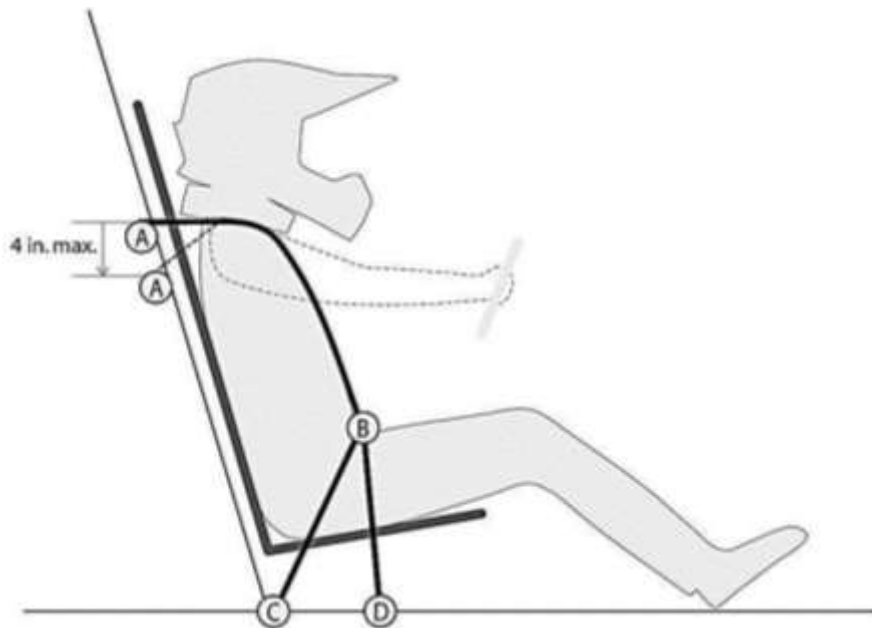

Figure B- 33: Driver Harness, Shoulder Harness Vertical Position
The shoulder belt mounting point (A) (see Figure B-33) shall be positioned no higher than vertical level with each driver’s shoulders, and no lower than 102 mm (4 in.) vertically below each driver’s shoulders.
Anti-submarine belts secured with eyebolts are explicitly prohibited. The webbing shall be wrapped per Figure B-33: Driver Harness, Diagram of Proper Wrapping of Webbing.